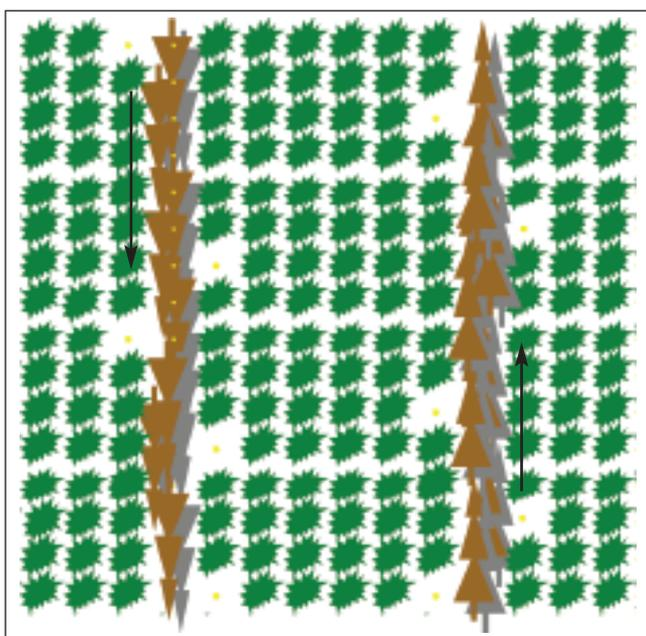

Figure 1: The layout of the stand after the rack has been felled. Arrows indicate direction of travel.
- a line thinning, where the whole trees are felled by chainsaw and chipped after summer drying by a terrain-chipper, every sixth or seventh line is removed (Figure 1);